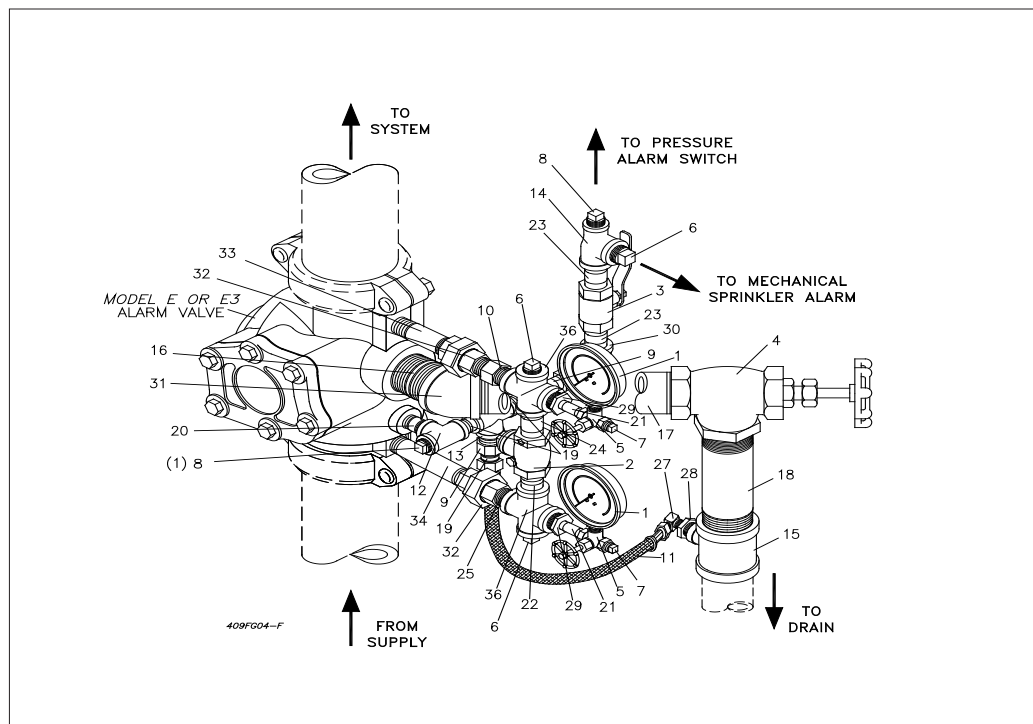

Fig. 4 Constant Pressure Vertical Installation
When the water ceases to flow through the Alarm Valve, the Clapper (4) returns to its seat thus stopping the flow of water to the retard chamber. Drain Orifices (Item 9, Fig. 4 & 6) allow the retard chamber and alarm line to empty through the drain line (Item 11, Fig. 4 & 6).
Constant Pressure (Figures 4 & 6)
- a. Close the main control valve and relieve pressure between main control valve and clapper of the alarm valve through the ¼" NPT lower gauge valve. Close this valve before removing the ¼" NPT plug, and open after the plug is removed to relieve pressure. If water continues to flow from this valve, the bypass Check Valve (B) should be cleaned, repaired or replaced.
- b. If Bypass Check Valve (B) is leaking, repair after opening Valve (A) to drain and draining the system completely.
- c. Following all repairs, close Valves (A) and then slowly open the main control valve, and supervise it appropriately.
5. If the retard and mechanical sprinkler alarm line does not drain completely, false alarms may result. In this case, check both drain orifices (Item 9, Fig. 4. & 6) to ensure they are not plugged.